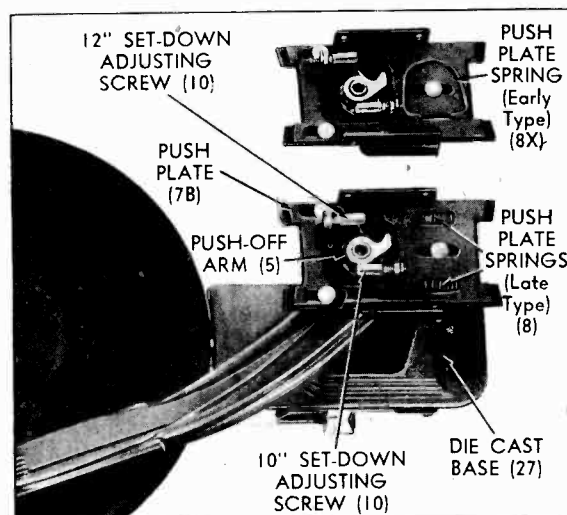

FIGURE 2. RECORD CHANGER, TOP VIEW SHOWING LOCATION OF PARTS
5. SET-DOWN POINT (Sée Figure 2).
8. RE-POSITIONING PUSH-OFF ARM (Figures 2 and 4).
(a) Push plate springs (8 or 8X) may not provide sufficient tension. There should be no "slop" in the head assembly (7) between cycles. If there is any play, replace the push plate springs. See figure 2.